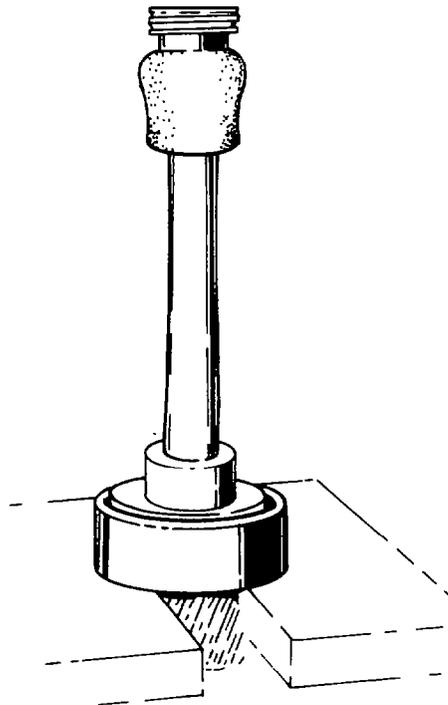

Fig. 289 — Removing Bearing Assembly
- i. Install the bearing cup (previously removed from carrier housing, para. g.) onto the pinion shaft bearing cone, then press the bearing assembly from the pinion shaft (see fig. 289).